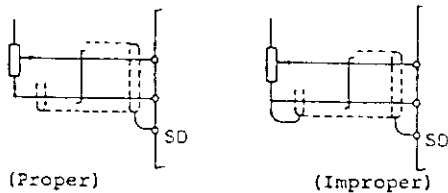

Fig. 4-11 Connection I of shield sheath
① Connect the outer sheath of the shield cable to the terminal SD of the servo amplifier connector, and be sure to open the other end. Refer to Fig. 4-11 and 4-12.